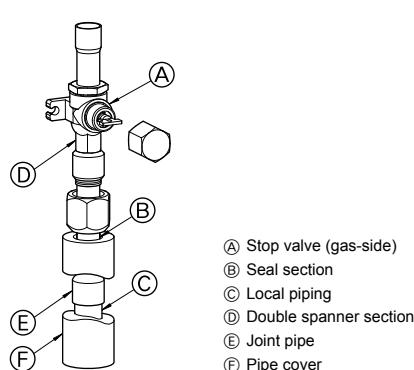

Fig. 4-3
- Use the following procedure for connecting the gas-side piping. (Fig. 4-3)
- Braze the ④ Joint pipe provided to the outdoor unit using locally procured brazing materials and ⑤ Local piping without oxygen.
- Connect the ④ Joint pipe to the gas-side Stop valve.